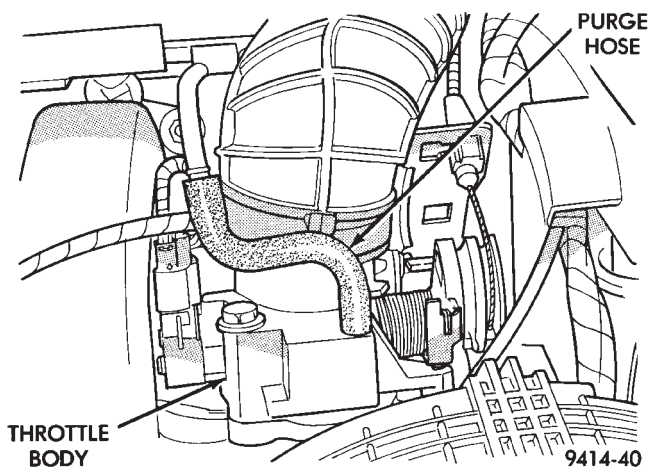
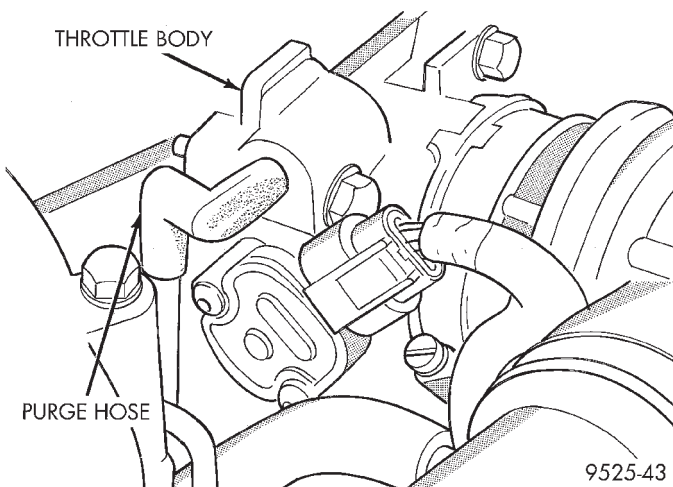

Fig. 69 Purge Hose—2.0/2.4L Engines
Fig. 70 Purge Hose—2.5L Engine
- (1) Turn ignition key to Off.
- (2) Disconnect the PCV valve hose from the intake manifold nipple. Cap the PCV vacuum nipple.
- (3) Disconnect purge hose from the nipple on the throttle body (Fig. 69) or (Fig. 70).